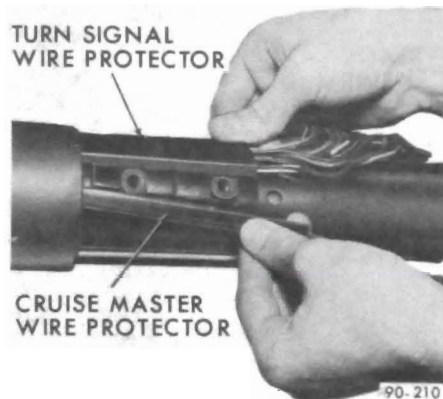

Figure 90-133 - Signal Switch Wire Protector
4. Remove signal switch wire protector. See Figure 90-133.